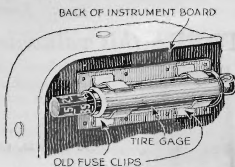

Fig. 7. A handy tire gage holder on the dash, made from a correct-size fuse clip
**T**HERE is one place where the tire gage does not belong, and that is in the toolkit, where it is sure to get clogged with dirt and damaged by heavy wrenches and the tire jack. A good way is to buy a fuse clip the right size so that the tire gage will snap in tightly, as shown in Fig. 7. The clip can be fastened to the inside of the dash, where it will be protected, yet handy.